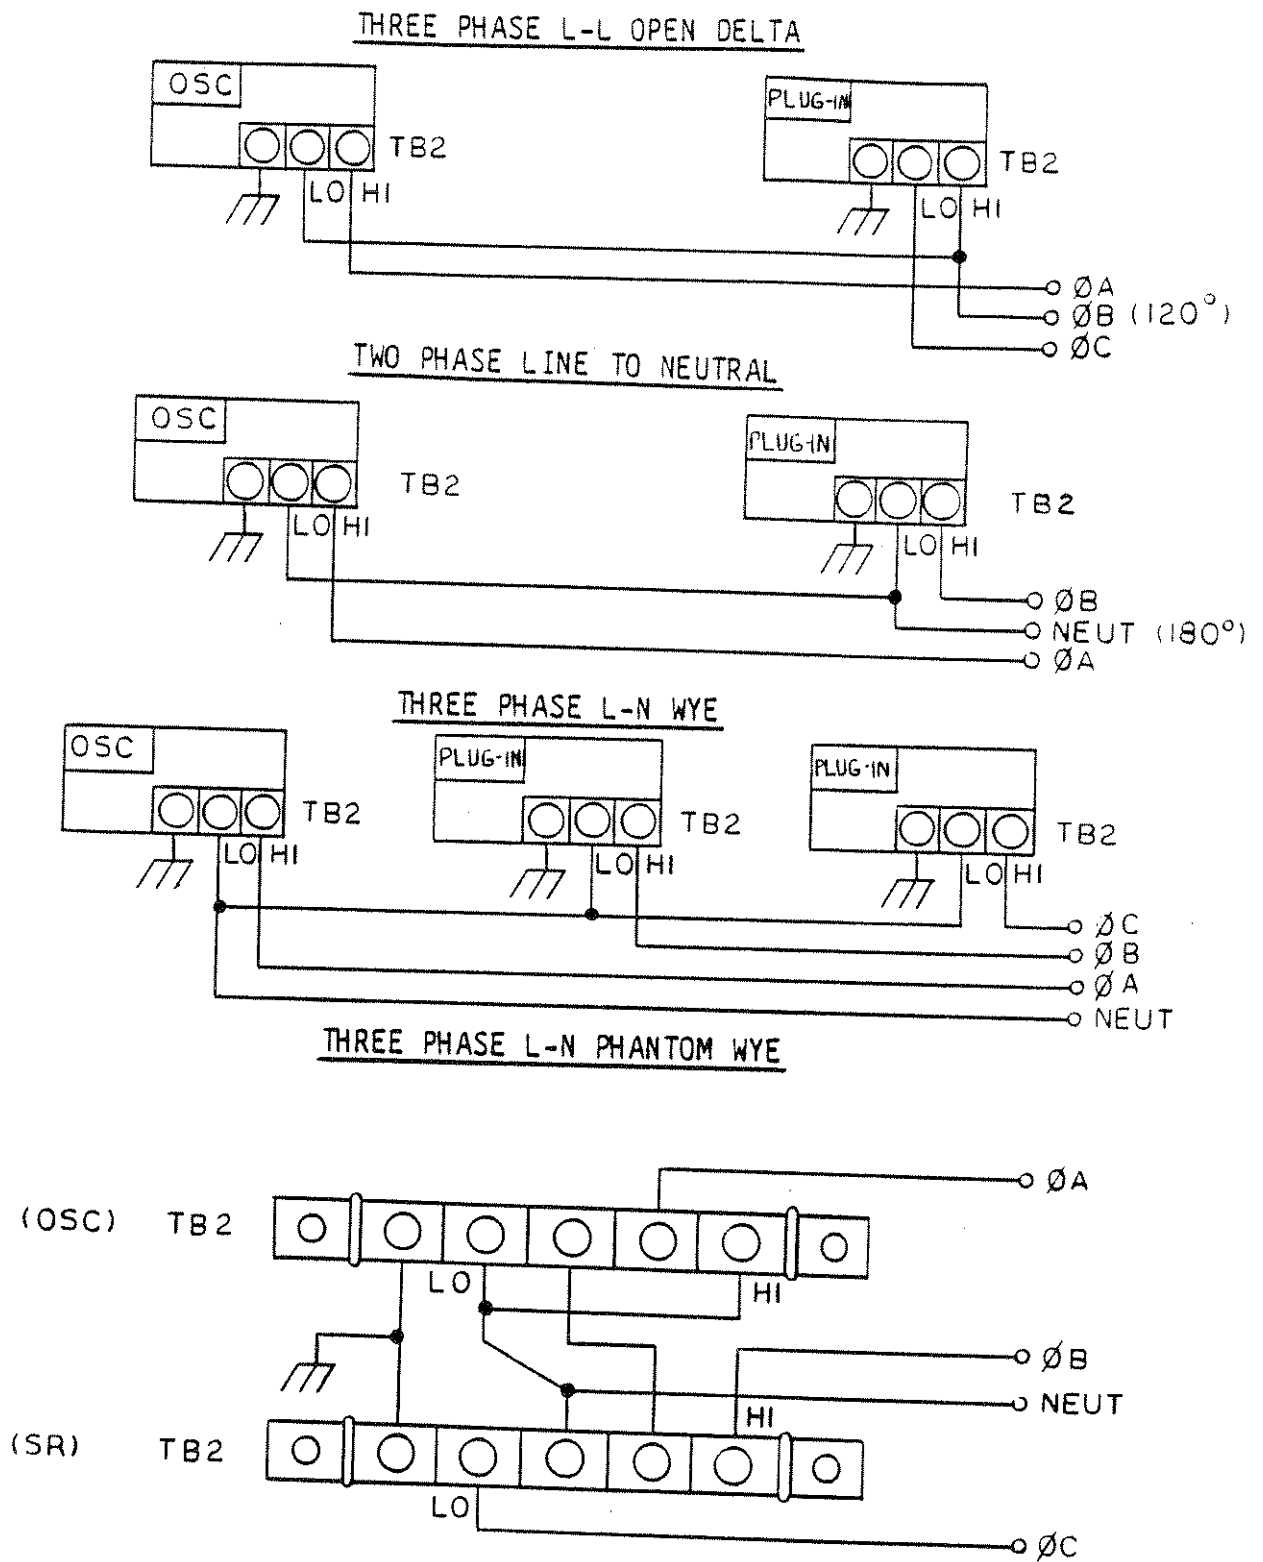

FIGURE 3-2
- 3.1.2 Two phase operation requires two power sources. Three phase operation may be accomplished with three power sources, two power sources in open delta configuration, or two power sources in phantom wye configuration. Refer to Figure 3-2 for output interconnect information for the various systems.